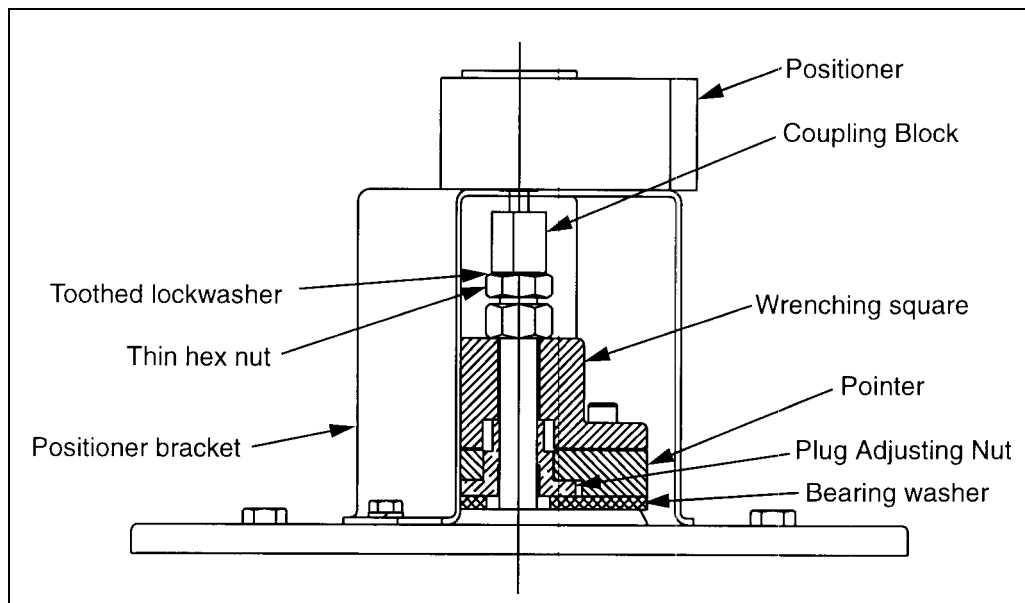

Figure 3 — Coupling Block Location on 3 & 4 Way Plug Valves
20. See Figure 3. Screw the thin hex nut from the kit onto the stud until it touches the thicker nut.